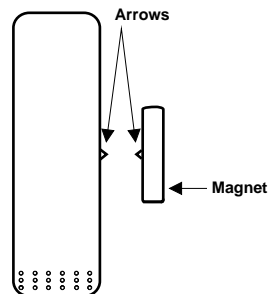

Figure 7. Magnet alignment
3. Position the shock element and press it firmly into its socket (see Figure 7).
4. If using the reed switch, use the two remaining screws to mount the magnet so that its arrow is aligned with the arrow on the sensor case (see Figure 7).